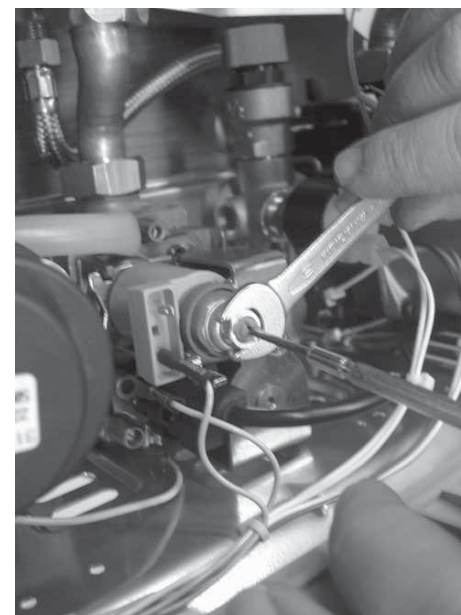

Figure 45
- ❑ Push the ball inside the modulating gas valve coil using a sharp pointed tool. (*figure 45*)